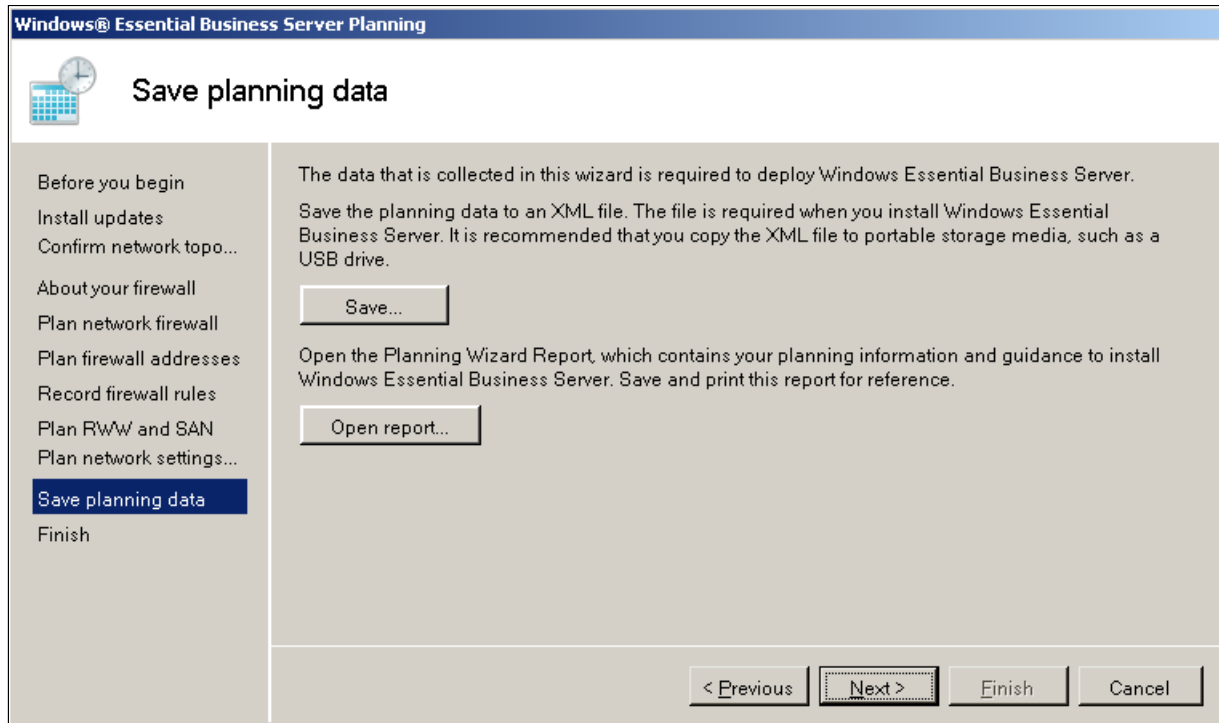

Figure 3-17 Save planning data
9. Click **Save** on the “Save planning data” panel (Figure 3-17) and choose the name and location of the file.
10. Click **Open report** on the “Save planning data” panel (Figure 3-17) to view the Planning Wizard Report as an HTML file. It is advisable to save it (or print it) for future reference.